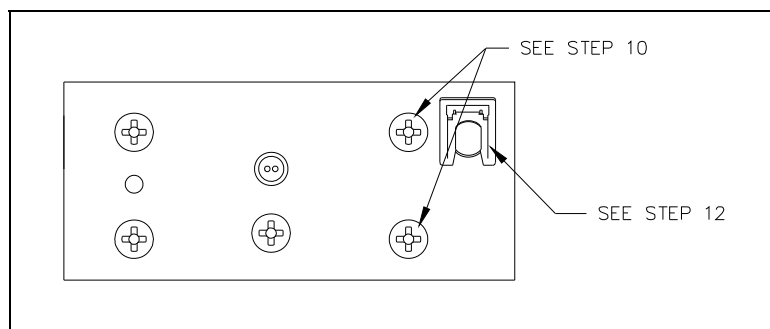

Figure 3.
12. Secure the handset cord using the spring clip provided. See Figure 3.